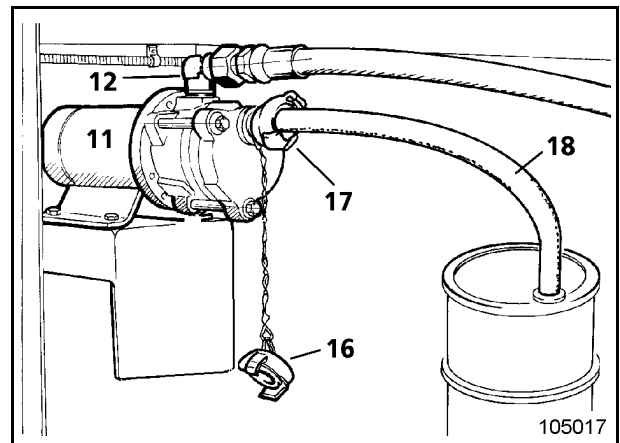

Fig. 2-31:
- Unscrew cap (16, Fig. 2-31:) from express coupling (17).
- Attach filling hose (18) to express coupling (17) and introduce into the fuel barrel. The electrical pump of the refuelling system is switched on with key-switch (14).